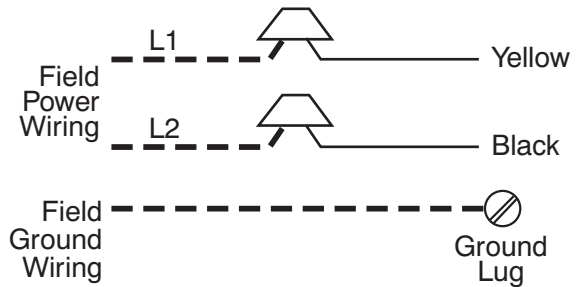

Fig. 6 - 3, 5, 8, 9 10 kW Non-fused Heaters (9 kW is field convertible to 3-phase. See Procedure 3. B. 1. c.) A00076
1. Unprotected heaters: (See Fig. 6, 10, and 11.)